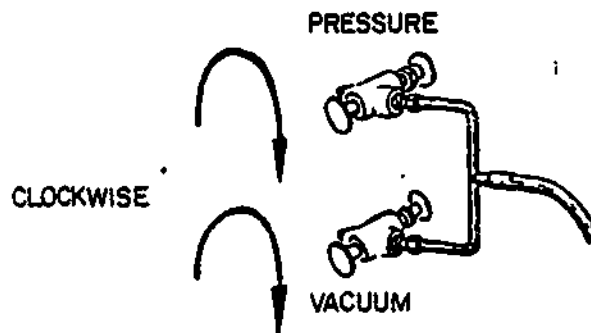

Figure 6.
g. The vacuum and the pressure source valves located at the back of the workbench must be closed finger tight in a clockwise direction, see figure 6.